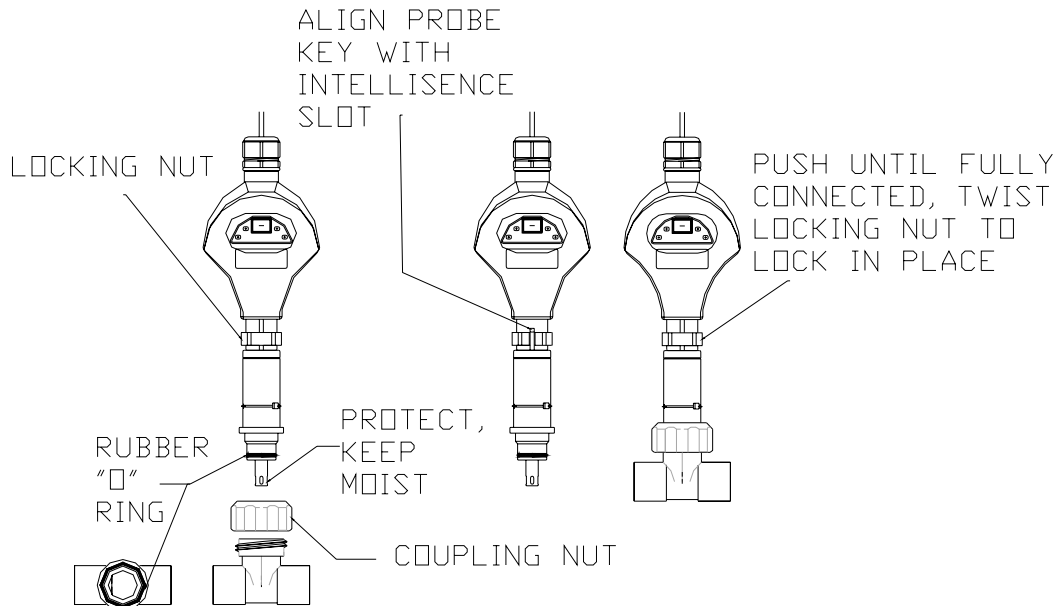

Fig. 3 Diagram of probe hat installation
- Use supplied cover filled with proper storage solution. (see *Figures 3&5*). See **Section 7 - Maintenance** for more information
- Slip coupling nut over probe. Gently install probe into probe housing on flow assembly. Make sure probe is firmly seated in housing. (*Figure 3*)